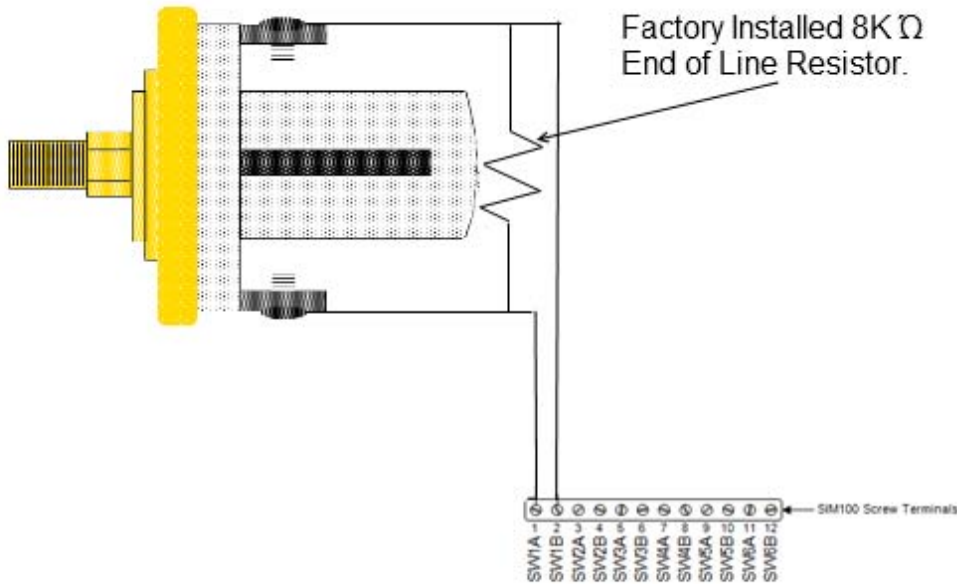

Figure 1 - Wiring Diagram
Please follow these instructions to connect the VS-07.0HG to the NMEA 2000 network via a Maretron SIM100 Switch Indicator Module. The wiring diagram appears in Figure 1 on the reverse side of this page. The diagram shows a connection to channel #1, but connections to other channels are similar.
1. Install two wires using the screws on the alarm contacts terminals from the VS-07.0HG to a free switch channel on the SIM100. To keep the end of line resistor in place, please do not remove the screws. The example in Figure 1 shows the VS-07.0HG connected to switch channel 1, terminals SW1A and SW1B.